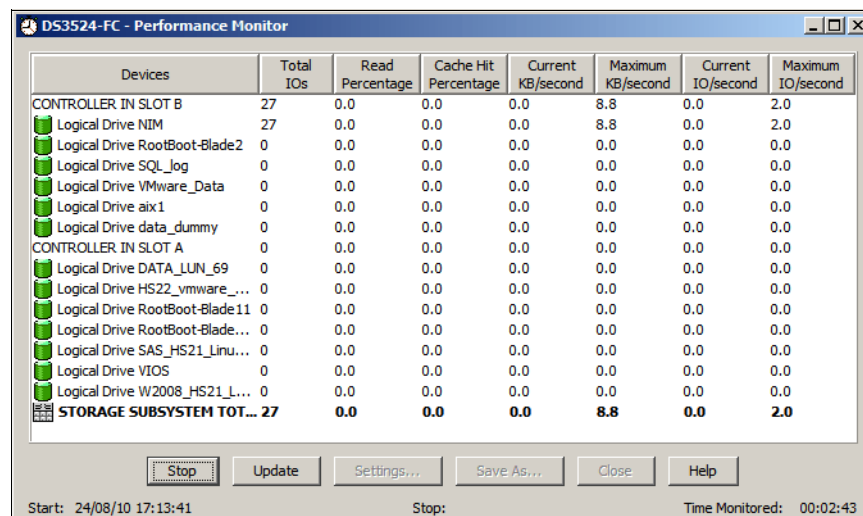

Figure 14-100 Performance Monitor collecting data
- Click the **Start** button to begin collecting the performance counters (Figure 14-100). The performance counter values that are listed in the table are updated at the time interval that you specified in the Polling Interval setting in step 3. Click the **Update** button to force an immediate update of the performance counters.